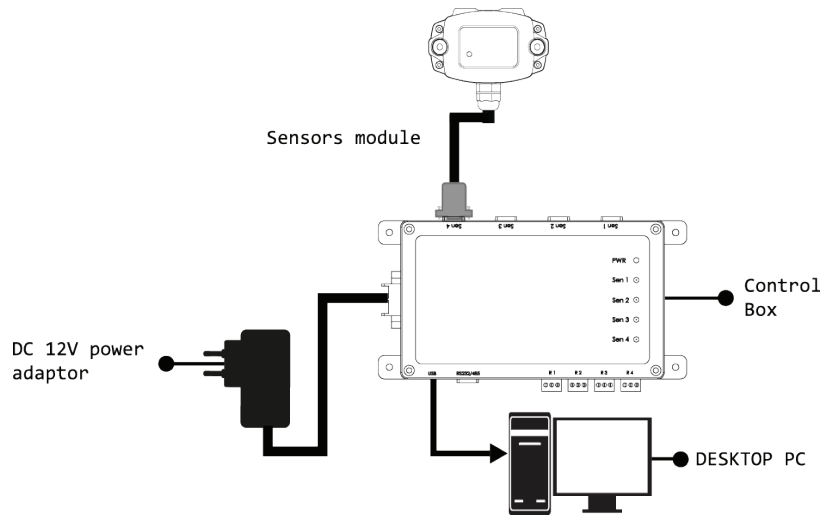

Figure 5. Diagram for USB connection through control box
4. Connect the USB cable from USB2.0 Standard-B Port on the control box to the PC as shown in Figure 5.